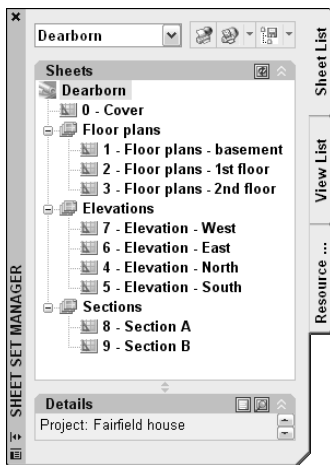

Figure 26-20: The Sheet Set Manager is the home base for your sheet sets.
You manage sheet sets and their individual sheets in the Sheet Set Manager, shown in Figure 26-20. The Sheet Set Manager is a palette like the Properties palette. For example, you can auto-hide it in the same way. To open the Sheet Set Manager, choose Tools ⇨ Sheet Set Manager, and click the Sheet Set Manager button on the Standard toolbar, or press Ctrl+4.
- ♦ **Sheet List** contains the sheets that you create for the sheet set. You use this tab to manage and organize the sheet set. You can set properties for the sheet set, for subsets (categories), and for individual sheets. You can use this tab to add and remove sheets, and to import a layout from another drawing as a sheet. You can also use it to plot, publish, eTransmit, or archive an entire sheet set or a selection of sheets, to rename and renumber sheets, and to close the sheet set. You can also open any sheet, which is the same as opening the drawing. Figure 26-20 shows the Sheet List tab.
Most AutoCAD users who work with multiple drawings create a folder structure to help organize the drawings. Sheet sets work the same way. You should start by creating a folder for your sheet set. If you want, you can create folders for categories. In the architectural example shown in Figures 26-20 and 26-21, the categories are Floor Plans, Elevations, and Sections. These become *subsets* in your sheet set. Finally, you should create a subfolder for your resource drawings, which are the drawings that you'll use to create the sheet set.
Click Import Options to open the Import Options dialog box. Here you can decide whether you want the sheet name to include the drawing name before the layout name. You can also choose to use your folder structure to create subsets. For example, if you have folders named Floor Plans, Elevations, and Sections, you could automatically create the subsets that you see in Figure 26-20. Click OK to close the Import Options dialog box and return to the wizard.